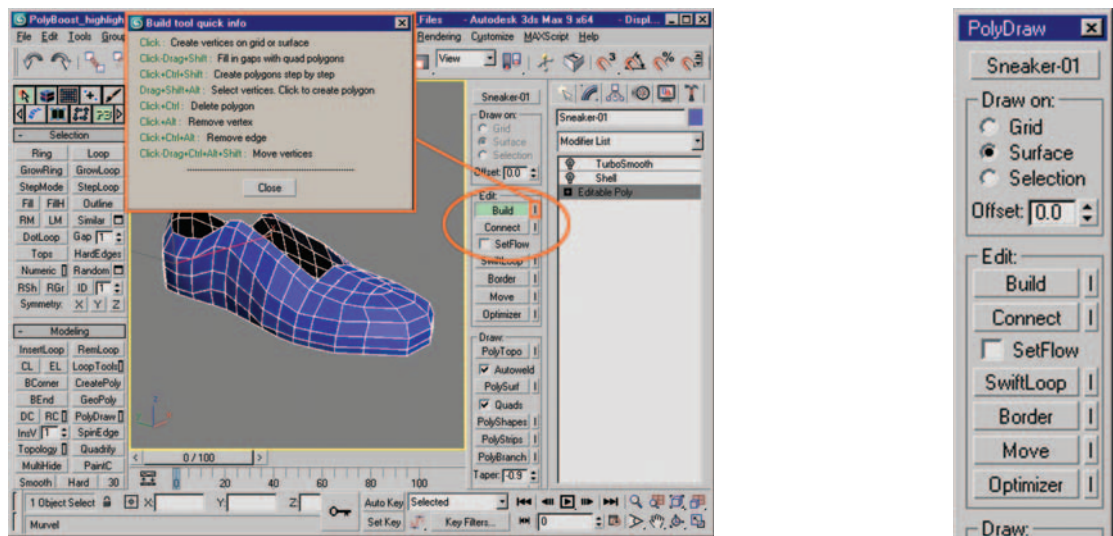

Figure 12.21 Build button as well as Build Tool Quick Info button and display highlighted.
- Click on the Build button as well as the Build Tool Quick Info button. The Quick Info button for each tool is right next to the button. It is a smaller button with a vertical line on it. The Quick Info button displays the key combination options for each tool. Different key combinations will invoke different functions of the selected tool. Figure 12.21 shows the Build button as well as the Quick Info box.